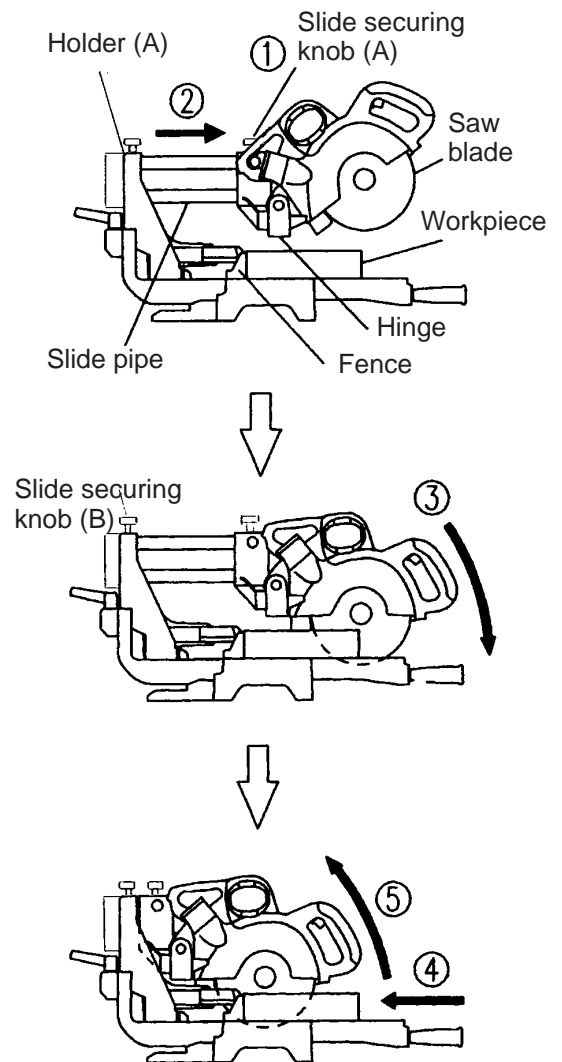

Fig. 36
- (1) Cutting efficiency will be reduced if a dull saw blade is used, if an excessively long extension cord is used, or if the wire gauge of the extension cord is too small. (For details, refer to the Instruction Manual "USE PROPER EXTENSION CORD".) This is particularly important when cutting materials with dimensions which are at or near the maximum capacity for the machine.
- (2) The customer should be advised to thoroughly inspect the workpiece to ensure that there are no metallic objects (nails in particular), sand, or other foreign matter in or on the workpiece. Contacting such foreign matter will not only shorten the service life of the saw blade, but could cause serious accident. Should the saw blade tips be broken off, the tips may fly toward the operator.
(3) Press cutting (③ in Fig. 36)
(4) Slide cutting (① to ⑤ in Fig. 36)
Instruct the customer to always slide the saw blade section toward the fence while cutting, as shown by arrow ④ in Fig. 36.
- ⑤ On completion of the cutting operation, turn the switch off and wait for the saw blade to come to a complete stop before raising the handle to its original position. Raising the handle while the saw blade is still rotating may cause unwanted cutting marks on the workpiece.